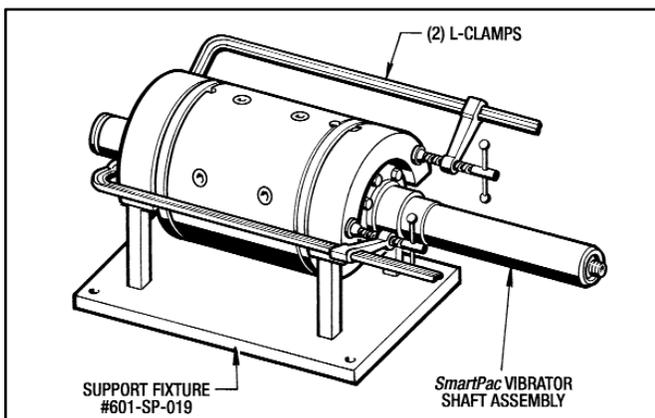
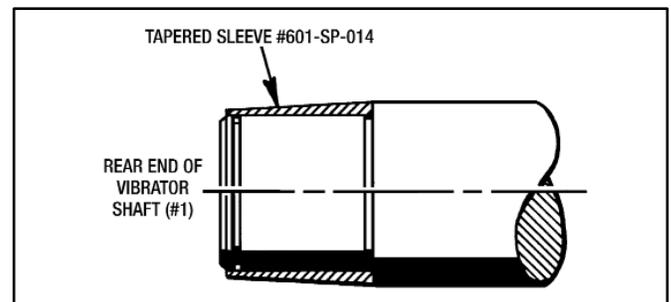

Figure 6.4 - L-Clamps and Support Fixture #601-SP-019
Figure 6.5 - Tapered Sleeve #601-SP-014
- Set the **SmartPac Assembly** on the Support Fixture #601-SP-019. (See Figure 6.4)
- Use the (2) **L-Clamps**, which are furnished in the Assembly Tool Kit, to clamp the **SmartPac Assembly** together as shown in Figure 6.4.
- Take the (2) L-Clamps off. The internal spring will force the Rear Hub Assembly back some. Continue pulling the Rear Hub Assembly off the rear of the Vibrator Shaft (#1).
- Take the Thrust Washers (#42a) and the Spring (#32) off the Vibrator Shaft (#1). **NOTE** - There are (2) Thrust Washers (#42a) for the 27.48" long shaft.
- Remove the (6) Flat Hd. Screws (#15) and slide the Sleeve (#17) off.
- NOTE** - These (6) Screws have Blue Loctite #242 on the threads. Use an impact wrench to break them loose. If they get damaged in removal, there are (6) new ones in the Minor Overhaul Kit.
- Put the **Tapered Sleeve #601-SP-014** on the rear end of the Vibrator Shaft (#1) as shown in Figure 6.5.